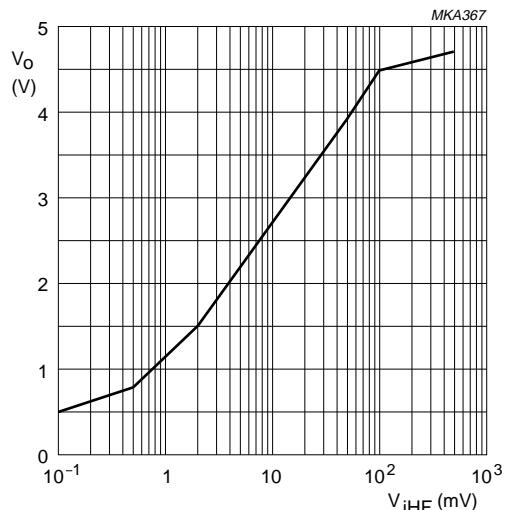

Fig.11 Level detector output voltage at ENVOUT (pin 11) as a function of the limiter input voltage level (RMS value) at FMINL (pin 61).
**Level detector output ENVOUT; pin 11 (see Fig.11)**